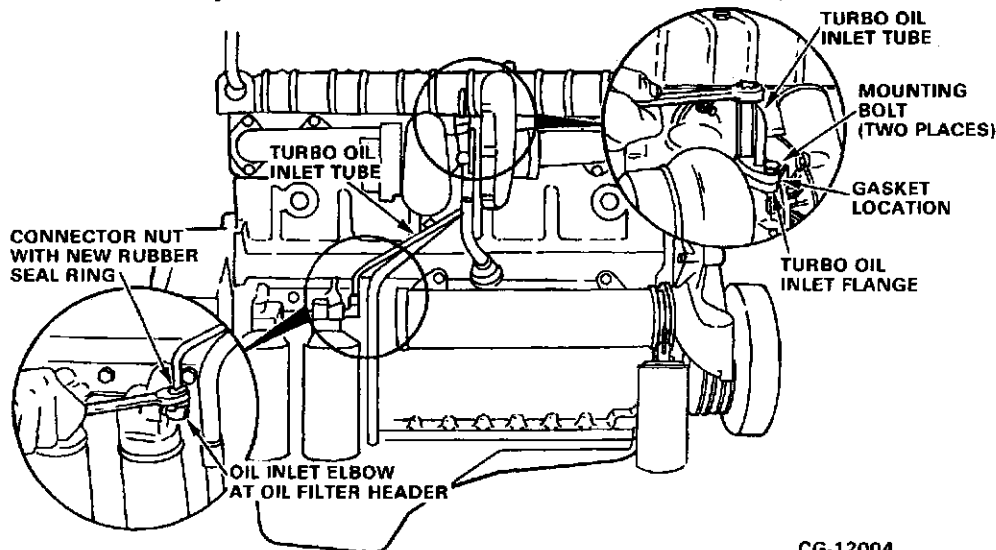

Figure 2.22. Turbocharger Oil Inlet Tube Installation
5. Install the turbocharger oil inlet tube as follows: (Refer to Figure 2.22.)